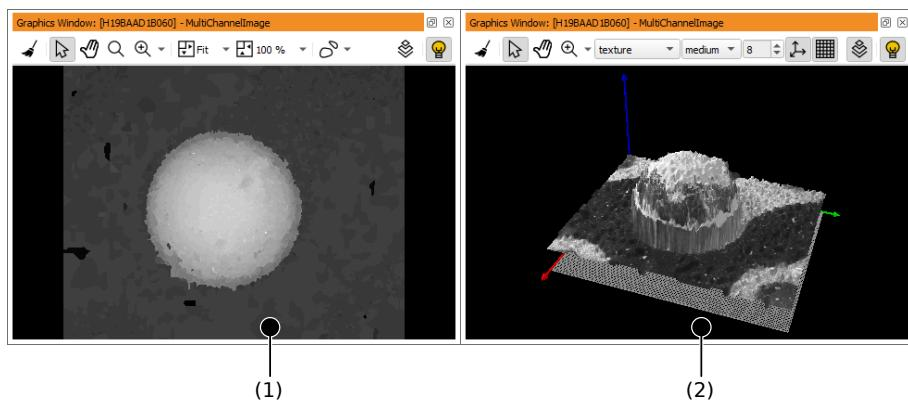

Figure 6.78: (1) Default image display, (2) 3D plot mode.
Clicking ⓘ activates an interactive 3D plot mode. It displays meaningful information for height field images, i.e., images that encode height information as gray values. The greater the gray value, the higher the corresponding image point. Figure 6.78 shows a height field image of a solder ball (1) and the corresponding 3D plot (2).